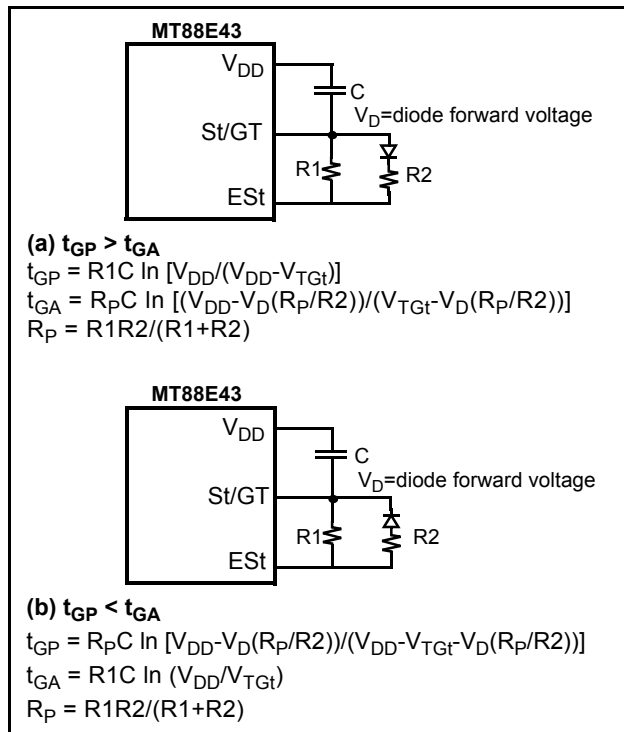
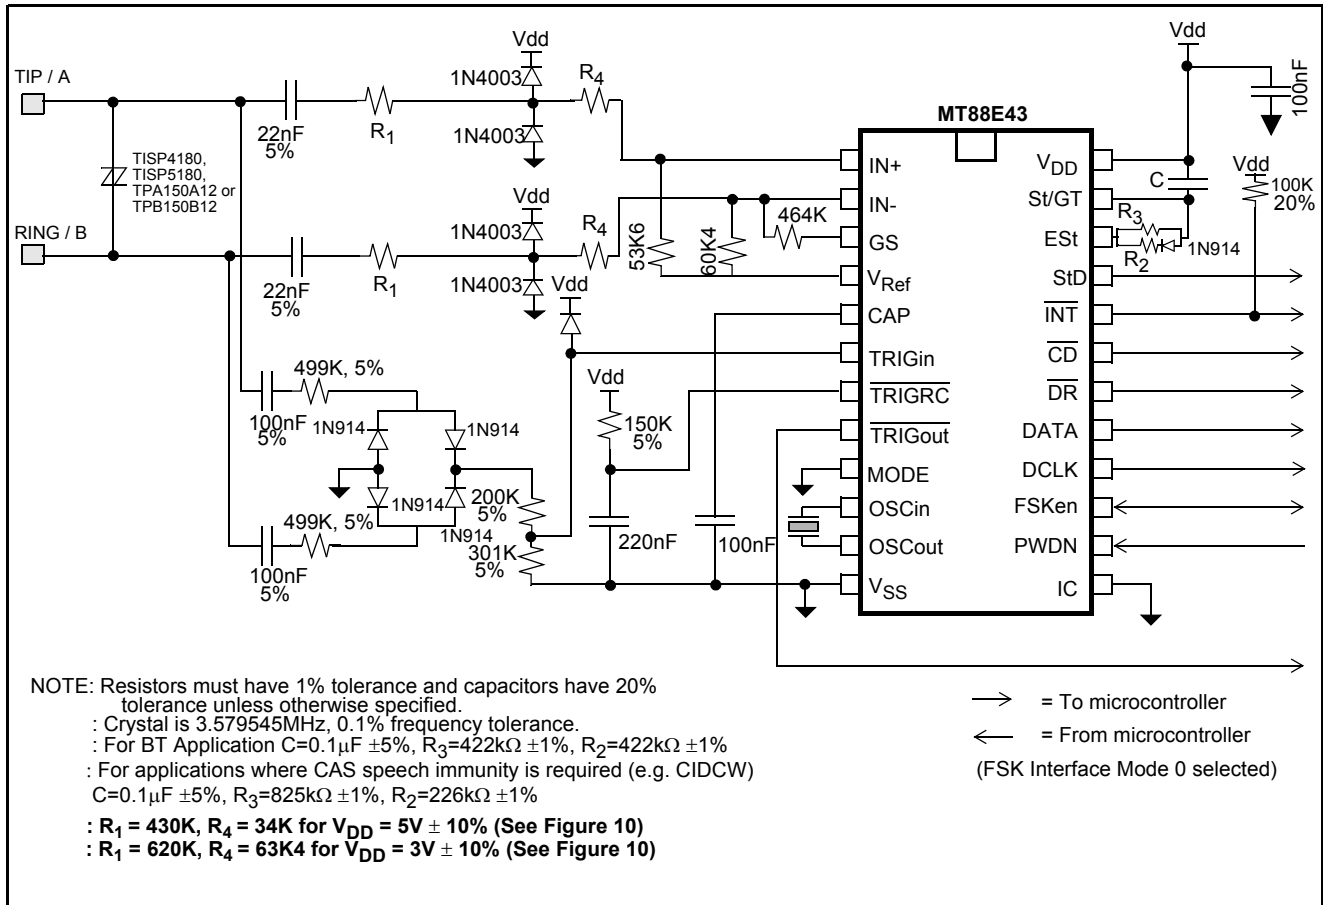
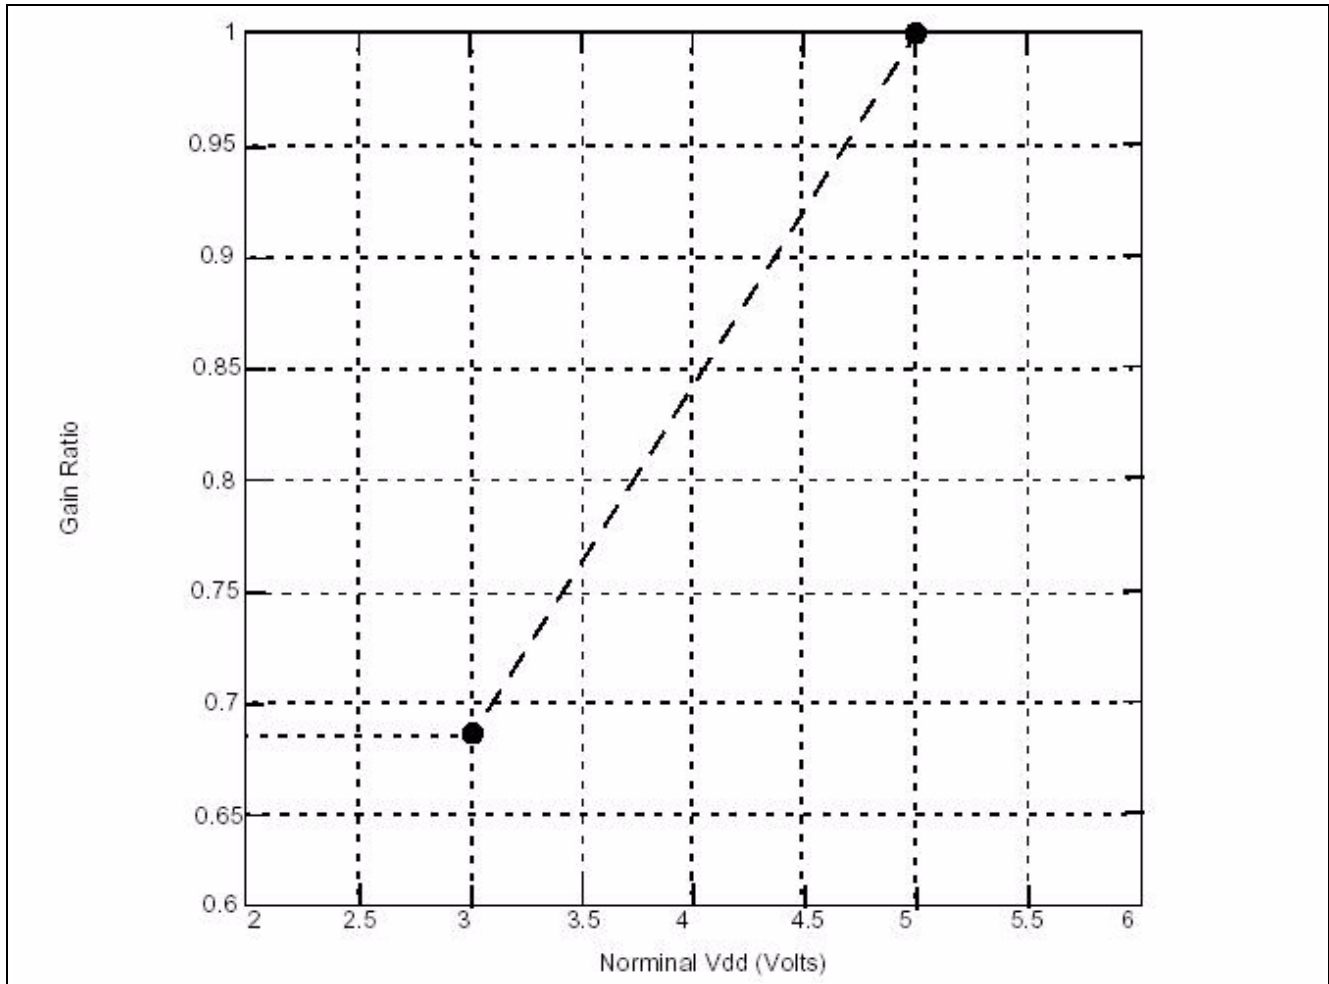

Figure 5 - Guard Time Circuits with Unequal Times
Figure 9 - Application Circuit
Figure 10 - Gain Ratio as a function of Nominal Vdd
BT specifies that the idle state tone alert signal recognition time should not be less than 20 ms when both tones are used for detection. That is, both tones must be detected together for at least 20 ms before the signal can be declared valid. This requirement can be met by setting the t_{GP} (refer to Figure 5) to at least 20 ms.
BT also specifies that the TE is required to apply a D.C. wetting pulse and an AC load 15-25 ms after the end of the alerting signal. If $t_{ABS}=t_{DA}+t_{GA}$ is 15 to 25 ms, the D.C. current wetting pulse and the A.C. load can both be applied at the falling edge of StD. The maximum t_{DA} is 8ms so t_{GA} should be 15-17 ms. Therefore, t_{GP} must be greater than t_{GA} . Figure 5(a) shows a possible implementation. The values in Figures 9 and 11 ($R2=R3=422K$, $C=0.1\mu F$) will meet the BT timing requirements.
The circuits shown in Figures 9 and 11 are application circuits for the MT88E43. As supply voltage (V_{DD}) is decreased, the threshold of the device's tone and FSK detectors will be reduced. Therefore, to meet the BT or Bellcore tone reject level requirements the gain of the internal opamp should be reduced according to the graph in Figure 10. For example when V_{DD}=5V (+/- 10%), R₁ should equal 430 kΩ and R₄ should equal 34 kΩ; and if V_{DD}=3V (+/- 10%) R₁ should equal 620 kΩ and R₄ should equal 63.4 kΩ. Resistors R₁ and R₄ are shown in Figures 9 and 11.
The circuit shown in Figure 9 illustrates the use of the MT88E43 in a proprietary system that doesn't need to meet FCC, DOC, and UL approvals. It should be noted that if glitches on the tip/ring interface are of sufficient amplitude, the circuit will falsely detect these signals as ringing or line reversal.
Note: In the application circuits shown in Figures 9 and 11, the Gain Ratio of MT88E43 opamp is
3. With gain setting as shown in Figure 10. Production tested at 3V ±10%, 5V ±10%.